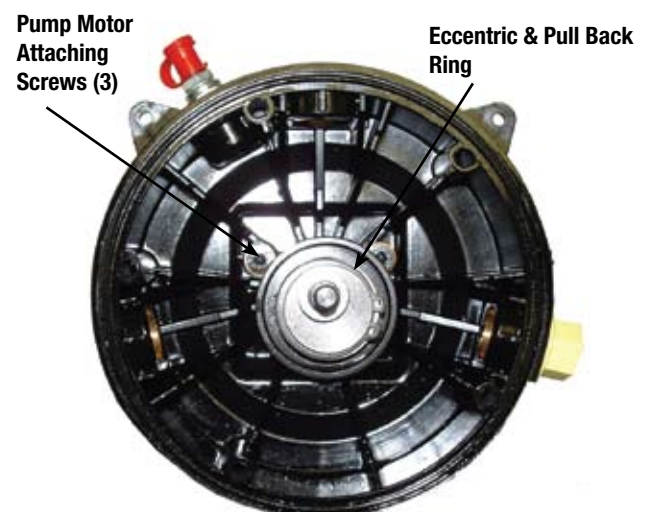

Figure 3-5
3.5 REPLACING ECCENTRIC AND PISTON RETRACT RING (SEE FIG 3-5)